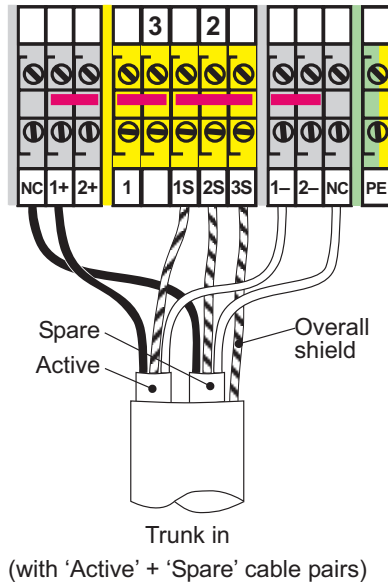

Figure 4.5 - 'Trunk In' with Active & Spare cable pairs
- c) Connect the prepared ends of the fieldbus trunk cable(s) into the appropriate '+', '-', and 'S' terminals, shown in Figure 4.5, and tighten the screw terminals to a recommended torque of 0.6 Nm.
Note: Figure 4.5 shows the screw-terminal '-PS' enclosure option, but the '-PC' cage-clamp terminal arrangement is similar.